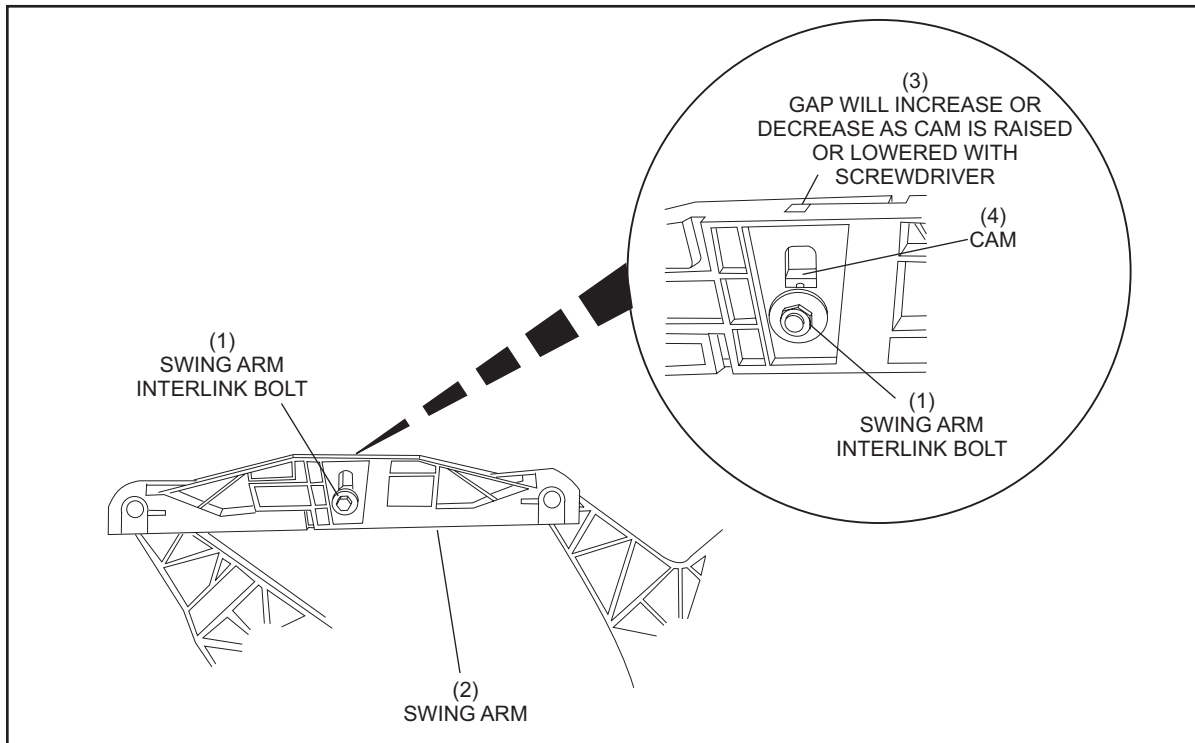

Figure 5-40. Swing Arm Adjustment
2. To adjust a swing arm position, loosen the swing arm interlink bolt from the arm. See *Figure 5-40*.